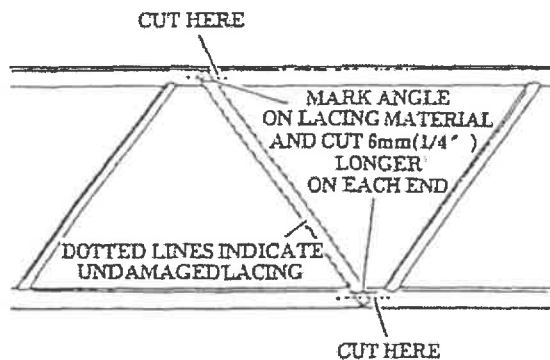

Fig. 2-10 Cutting Replacement Lacing
4. When using bulk replacement lacings, cut the lacing to the proper length which will be 12mm (1/2 inch) longer than is actually required so as to leave sufficient material for contour fitting (see Fig. 2-10 on page 2-8).
- B. Cut at the points and at the angle shown in Fig. 2-10.